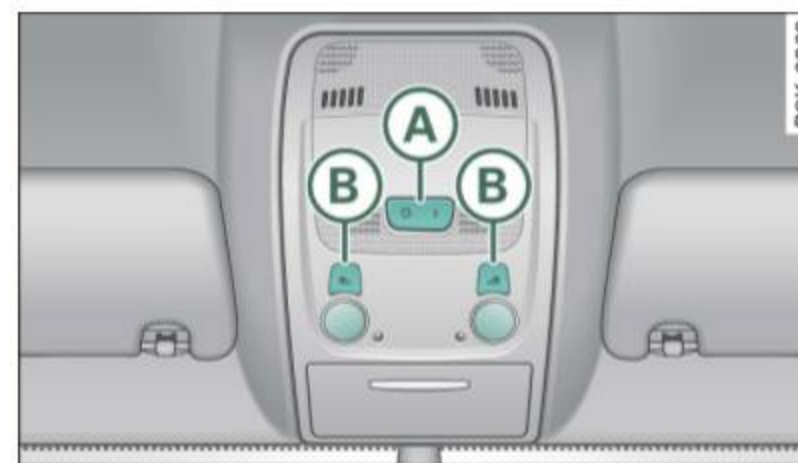

Fig. 56 Headliner: Front interior/reading lights
The rocker switch ① ⇒ fig. 56 for operating the interior lighting has the following functions: